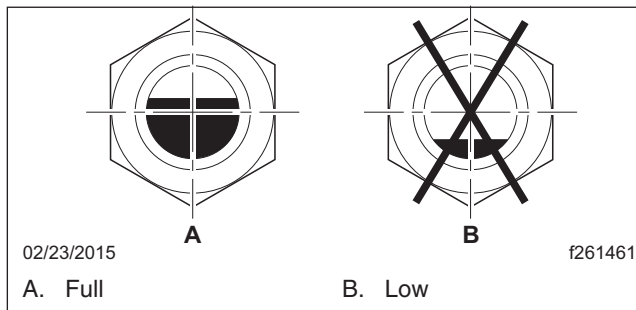

Fig. 4, Transmission Fluid Level Sight Glass
- Check the fluid level in the sight glass. When the fluid level is at or above 3/4 of the sight glass, then it is at or above the minimum fill level. See **Fig. 4**.